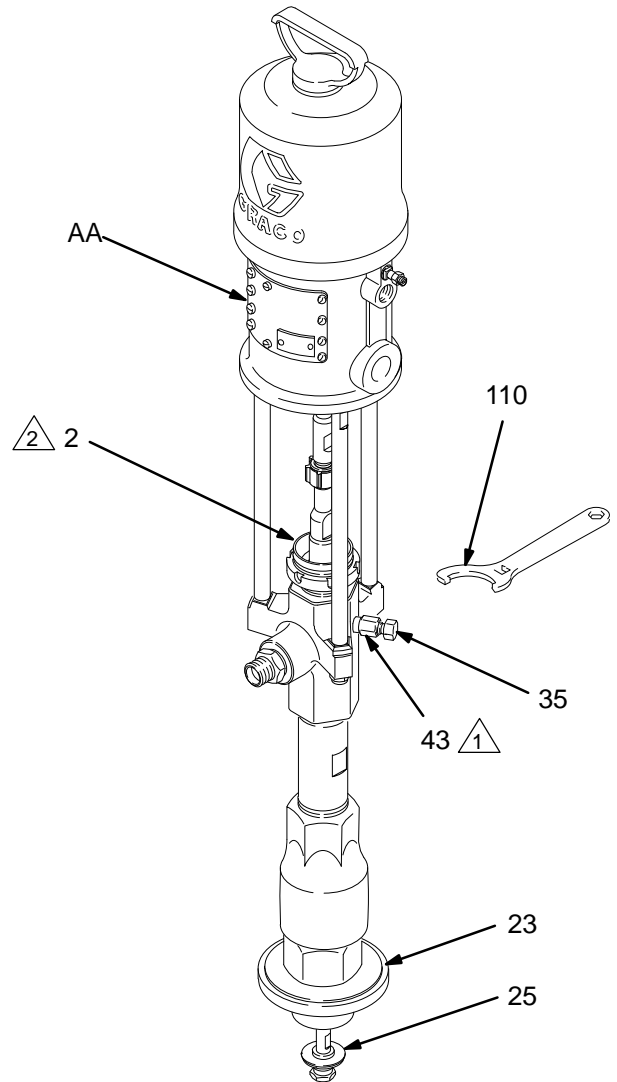

Fig. 3
Before starting, fill the packing nut (2) 1/3 full with Graco Throat Seal Liquid (TSL) or compatible solvent. See Fig. 3.
See Fig. 3. The priming piston (25) and the air motor piston (located behind the air motor plates, AA) move during operation.
9. If the pump fails to prime properly, open the bleeder valve plug (35) slightly. Use the bleed hole on the underside of the valve body (43) as a priming valve until the fluid appears at the hole. See Fig. 3. Close the plug (35).
**NOTE:** When changing fluid containers with the hose and gun/valve already primed, open the bleeder valve plug (35) to help prime the pump and vent air before it enters the hose. Close the plug when all air is eliminated.